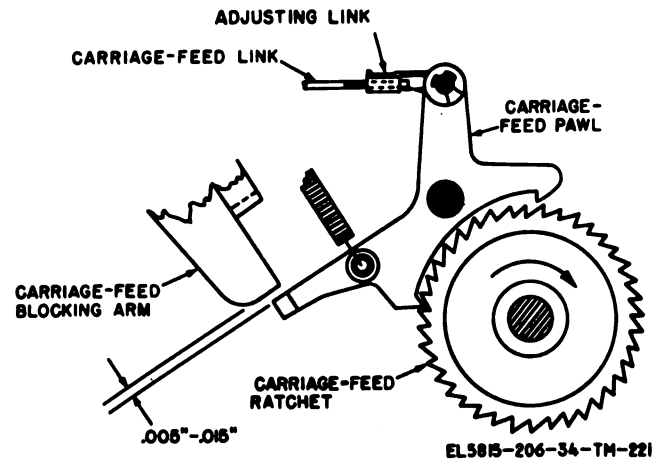

Figure 3-149. Carriage-feed pawl adjustment.
(fig. 3-149)
(4) Loosen the other setscrew in the drive collar on the carriage-feed shaft. Turn the carriage-feed ratchet until a tooth of the ratchet presses firmly against the upper latching arm of the carriage-feed pawl (fig. 3-149). Rotate the drive collar until the cam is positioned within the requirement (a above) and tighten both setscrews. Make the carriage-return latch-tripping arm adjustment (para 3-188). Then make the related adjustments (para 3-190 and 3-192).